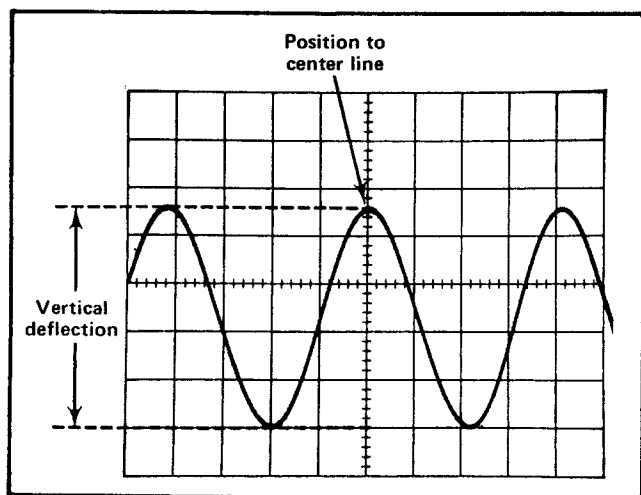

Fig. 2-19. Measuring peak-to-peak voltage of a waveform.
6. Turn the vertical POSITION control so the lower portion of the waveform coincides with one of the graticule lines below the center horizontal line, and the top of the waveform is on the viewing area. Move the display with the horizontal POSITION control, so one of the upper peaks lies near the center vertical line (see Fig. 2-19).
**Example.** Assume a peak-to-peak vertical deflection of 4.6 divisions (see Fig. 2-19) using a 10X attenuator probe and a VOLTS/DIV switch setting of .5.